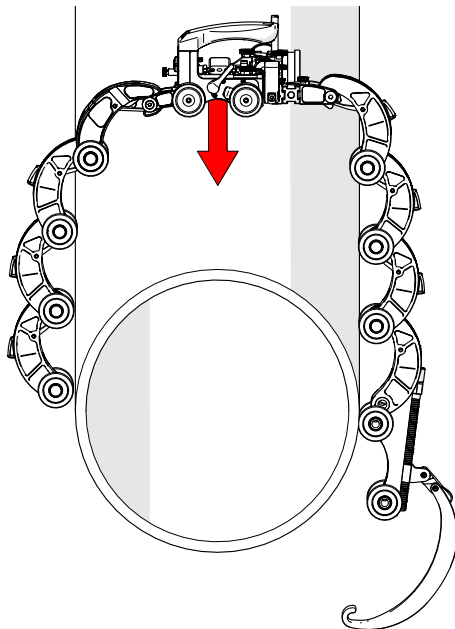

Fig. 156 - Drape onto pipe
5. Drape the configured assembly around the pipe that will be inspected (Fig. 156).